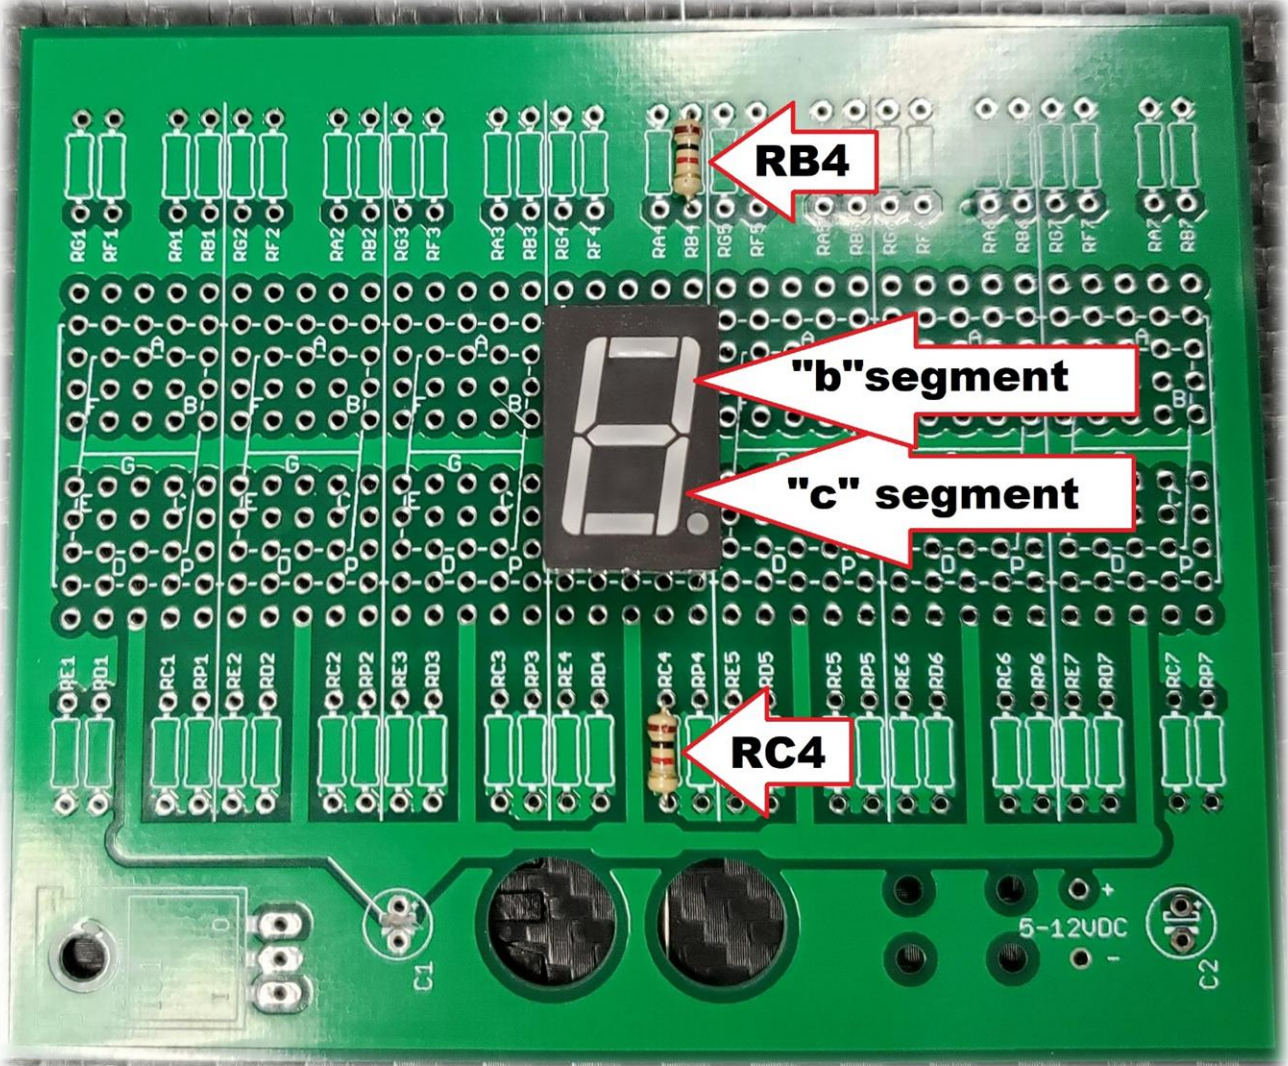

Figure 4 – Resistors installed in “RC4” and “RB4”
Step 1b. Once the LED digit is installed, 1kΩ resistors should be added to illuminate the desired segments. For example, to create a “1” digit, add resistors for the segments marked “b” and “c” as shown in Figure 4. The resistor for the ‘b’ segment is marked “RB4” on the circuit board. This designation shows that it is a (R)esistor, used for segment (B), at the (4)th digit location. Resistors can be installed with terminals in either direction, with no polarity.